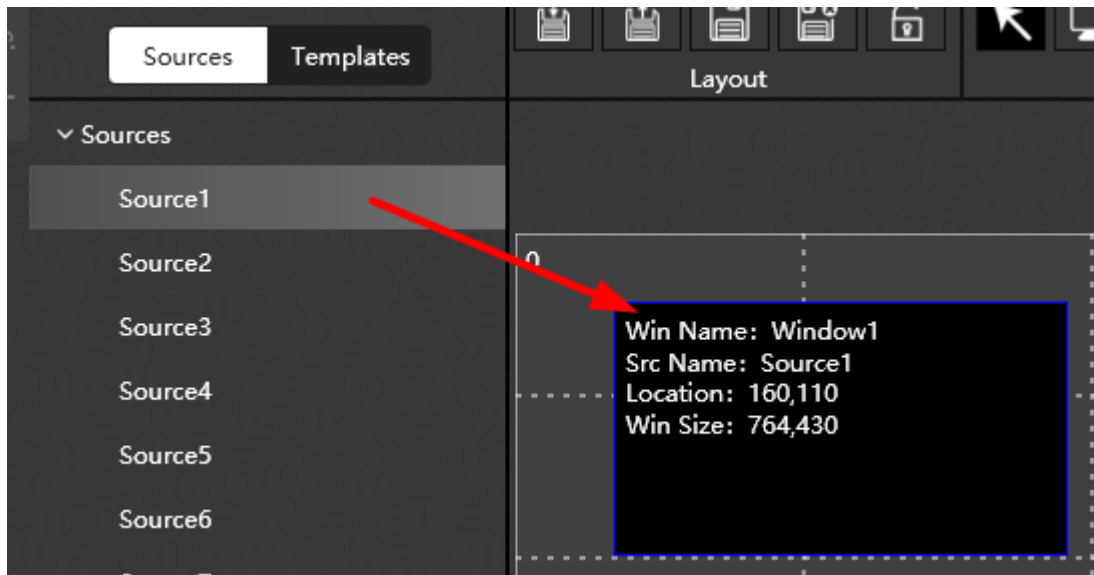

Figure 2.3.9 Signal Source for a Monitor Element
- **Sources:** It provides the signal sources available for the monitor elements. Click and drag a signal source from the sources list in system pane to a target monitor element in working area, thus to establish the mapping relationship, as shown in Figure 2.3.9: